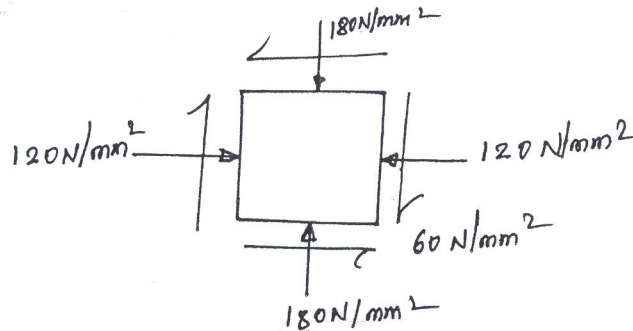

Fig.Q3
- 3 The state of stress in a 2D stressed body as shown in Fig.Q3. Determine principal stress, principal planes, maximum shear stress, verify your answers by constructing Mohr's circle.